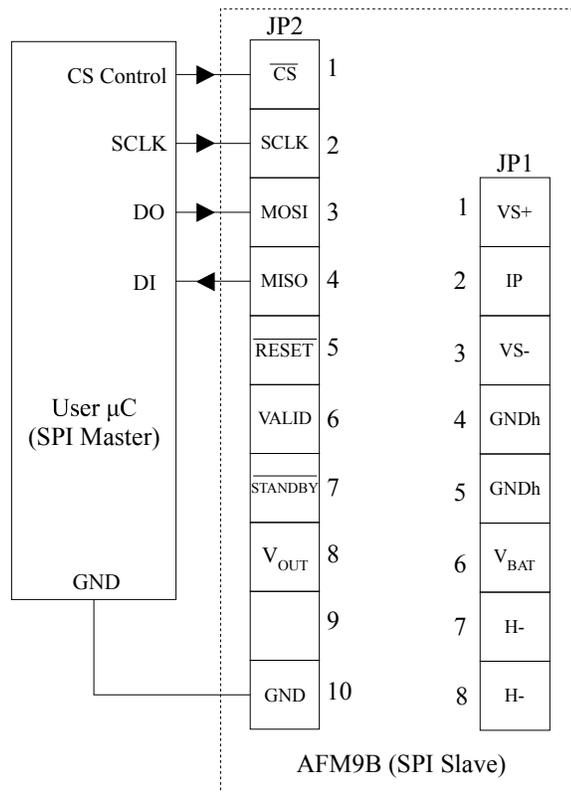

Figure 4. SPI Connections
The AFM9B is connected to a SPI master as shown in Figure 4. The AFM9B operates in SPI slave mode 0 with an alternative implementation of the Slave Select called Chip Select (CS). Table 3 lists how each connection should be configured on the user microcontroller. All signals connected to the AFM9B should adhere to the V_{OH} , V_{OL} , V_{IH} , and V_{IL} values in Section 11.